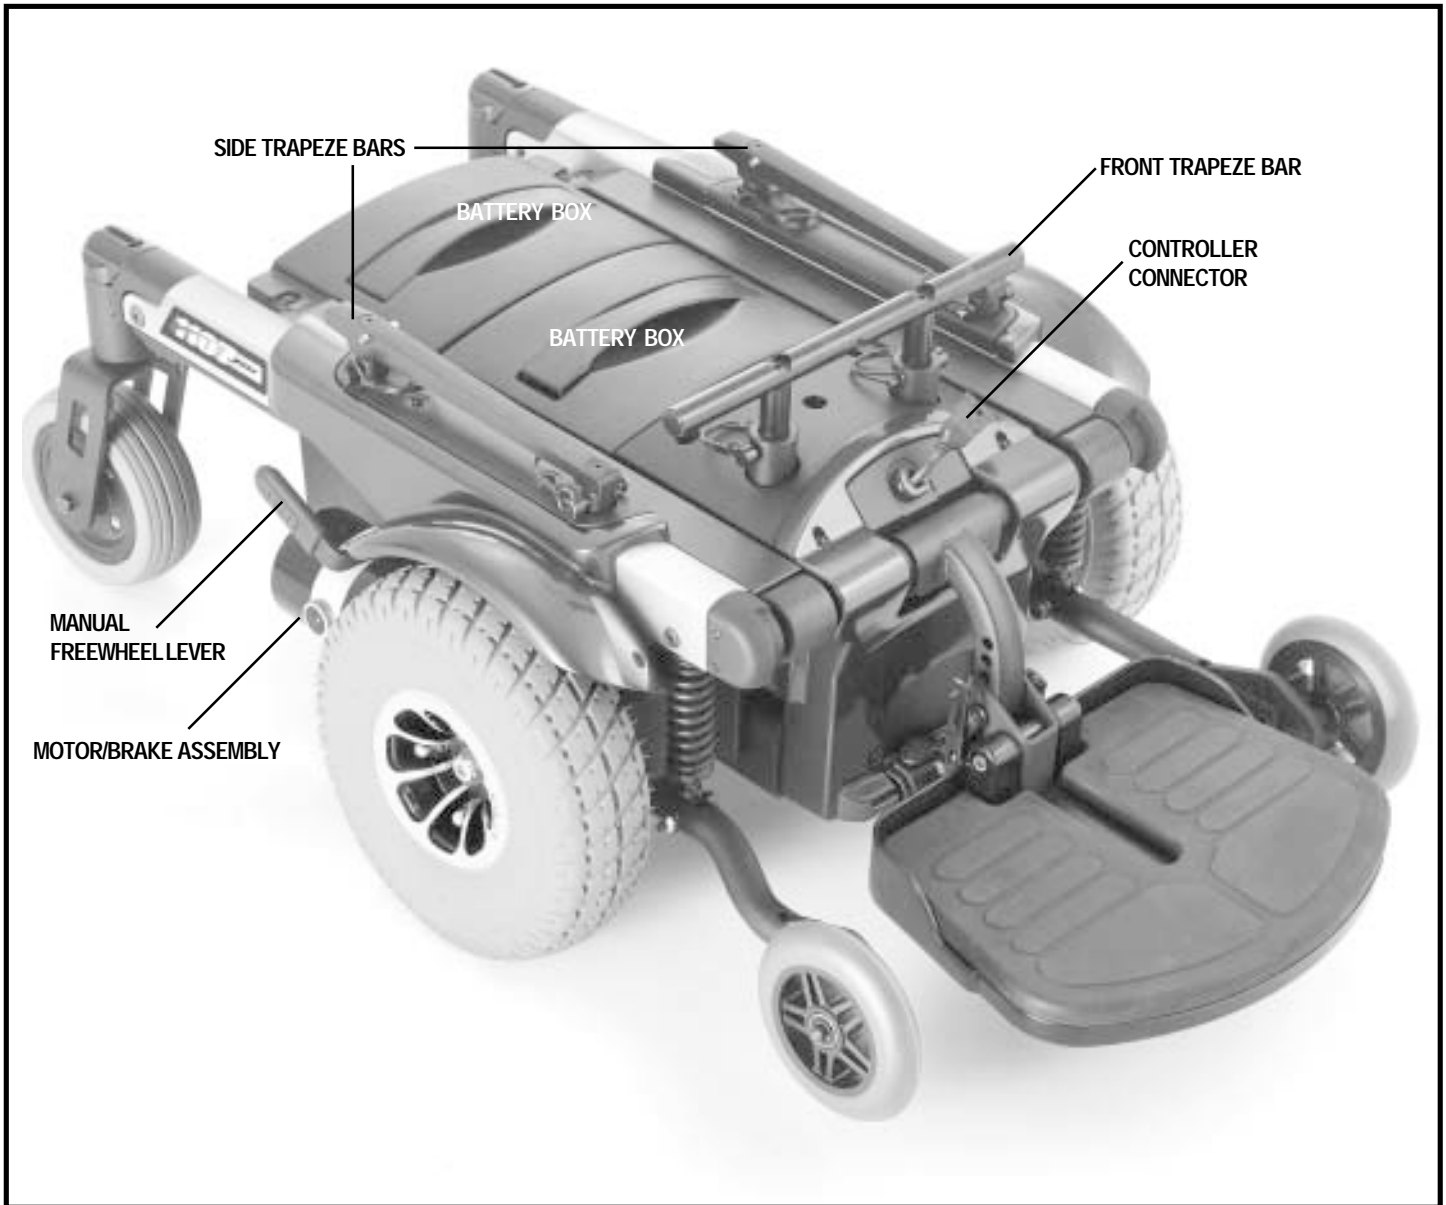

Figure 6. The Jazzy 1107 Power Base
The electrical components consist of the controller assembly, the batteries, and the motors. The batteries, motors, and controller power module are located on the power base assembly. See figures 6 and 7. The controller is located on the seat assembly. Connectivity between the controller and the motors, the batteries, and the battery charger is provided by one or more wiring harnesses.
Your power chair has a manual freewheel lever on each motor. See figure 6. Manual freewheel levers enable you to disengage the drive motors from the gearboxes and maneuver the chair manually.
2. Disconnect the controller from the power base. See figure 6.